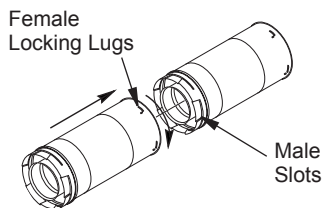

Figure 8 - Vent Pipe Connections
Twist-Lock Procedure: Female ends of pipes have locking lugs (indentations). These lugs will slide straight into matching slots on male ends of adjacent pipes. Push pipe sections together and twist one section clockwise approximately one-quarter turn until sections are fully locked (see Figure 8).
2. Assemble the desired lengths of pipe and elbows necessary to reach from fireplace flue up through firestop. Be sure all pipe and elbow connections are fully twist-locked (see Figure 8, page 11).